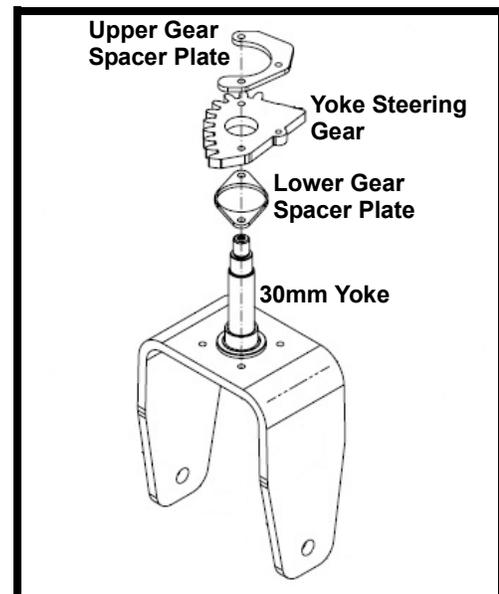

FIGURE 10
20. Gather the seven (7) items removed from the yoke assembly in Steps 8 through 13 and assemble three (3) of them onto the new Item #1 (**680-01434A**) 30mm Yoke Assembly. Refer to the order of items to be installed in Figure 10 and 11.